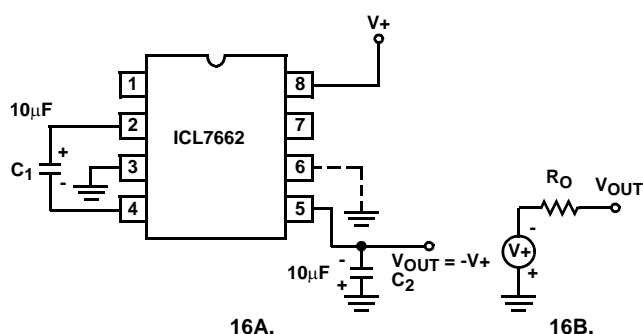

FIGURE 16. SIMPLE NEGATIVE CONVERTER AND ITS OUTPUT EQUIVALENT
The majority of applications will undoubtedly utilize the ICL7662 for generation of negative supply voltages. Figure 16 shows typical connections to provide a negative supply where a positive supply of +4.5V to 20.0V is available. Keep in mind that pin 6 (LV) is tied to the supply negative (GND) for supply voltages below 10V.
ESR also affects the ripple voltage seen at the output. The total ripple is determined by 2V, A and B, as shown in Figure 16. Segment A is the voltage drop across the ESR of C₂ at the instant it goes from being charged by C₁ (current flowing into C₂) to being discharged through the load (current flowing out of C₂). The magnitude of this current change is 2 × I_{OUT}, hence the total drop is 2 × I_{OUT} × ESR C₂ V. Segment B is the voltage change across C₂ during time t₂, the half of the cycle when C₂ supplies current the load. The drop at B is I_{OUT} × t₂/C₂ V. The peak-to-peak ripple voltage is the sum of these voltage drops:
Figure 23 combines the functions shown in Figure 16 and Figure 22 to provide negative voltage conversion and positive voltage doubling simultaneously. This approach would be, for example, suitable for generating +9V and -5V from an existing +5V supply. In this instance capacitors C_1 and C_3 perform the pump and reservoir functions respectively for the generation of the negative voltage, while capacitors C_2 and C_4 are pump and reservoir respectively for the doubled positive voltage. There is a penalty in this configuration which combines both functions, however, in that the source impedances of the generated supplies will be somewhat higher due to the finite impedance of the common charge pump driver at pin 2 of the device.